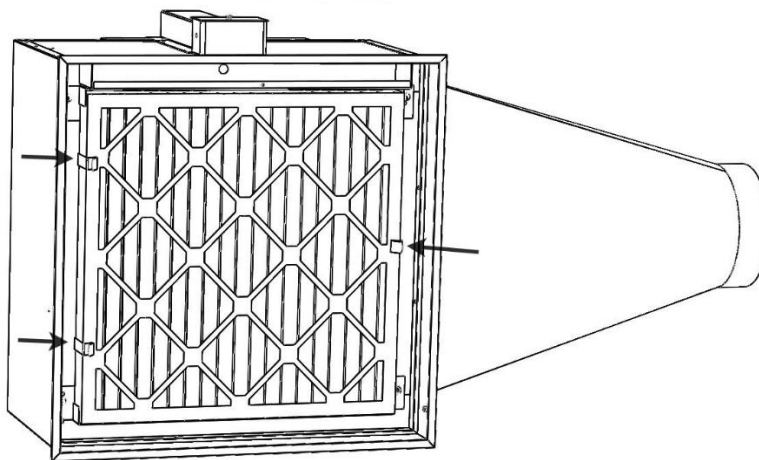

Figure 7. Secure the filter back in place with the three filter clips. Make sure they are all fully pushed in
4. Secure the filter in place with the 3 filter clips. Make sure each clip is completely pushed on top of the filter (Figure 7). The single clip is harder to push, you must press on the filter to force it. Make sure it is fully pushed against the filter in order to ensure an airtight installation and optimal performance.